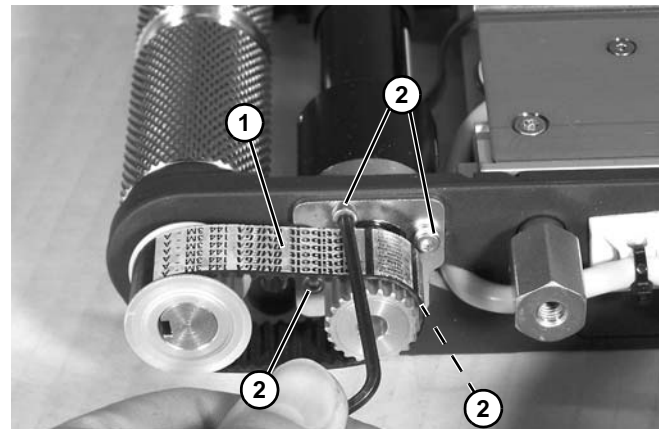

**Figure 65**
5. Tighten timing belt tension cam (**Figure 65, item 1**), making certain that pointer (**Figure 65, item 2**) on cam is pointing towards the motor drive spindle (**Figure 65, item 3**).
6. Rotate tension cam (**Figure 65, item 1**) to obtain 1/8 - 1/4" belt deflection at center of belt (**Figure 66, item 1**) with approximately 3-5 in-lb of pressure. Tighten four clamp plate screws (**Figure 66, item 2**) to 15 in-lb (1.6 Nm) to secure position.